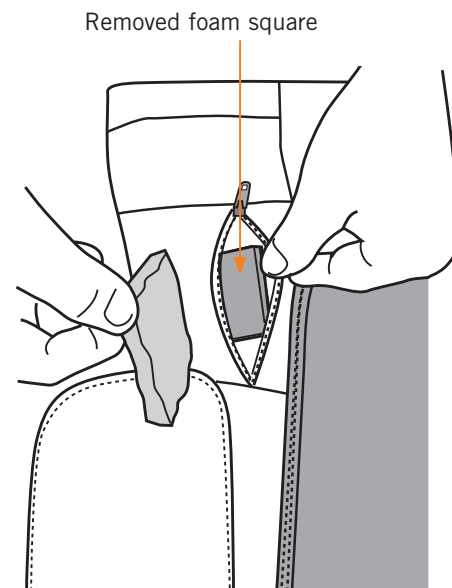

Fig.21
2. Unzip the pocket and remove the foam square (Fig.21).